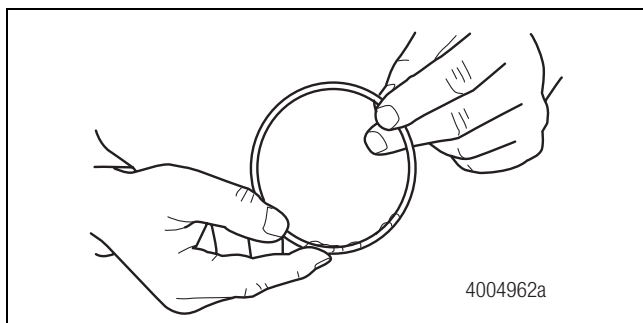

Figure 3.24
A. Apply a light coating of bearing grease to the O-ring. Figure 3.24.